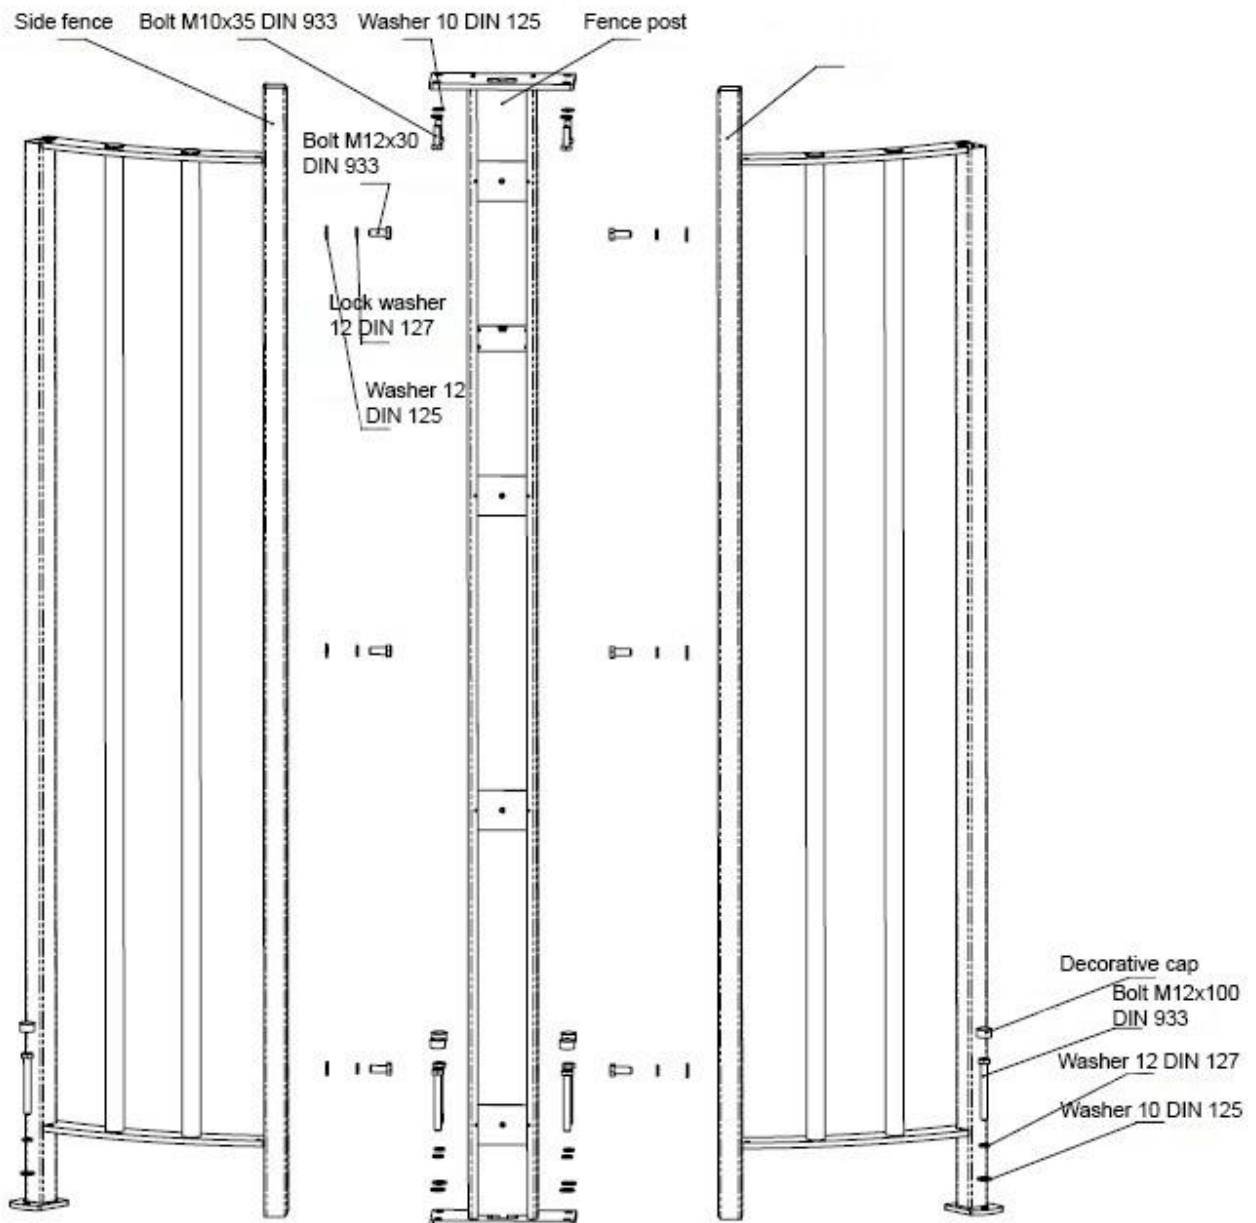

Figure 6 – Assembly of fixed fencing panel
4.2.7 Figure 6 – assemble the turnstile fixed fencing panel. Install it on the prepared site, previously passing CR cables, power cable, ACS and SFAS cables via its rack to the upper module.